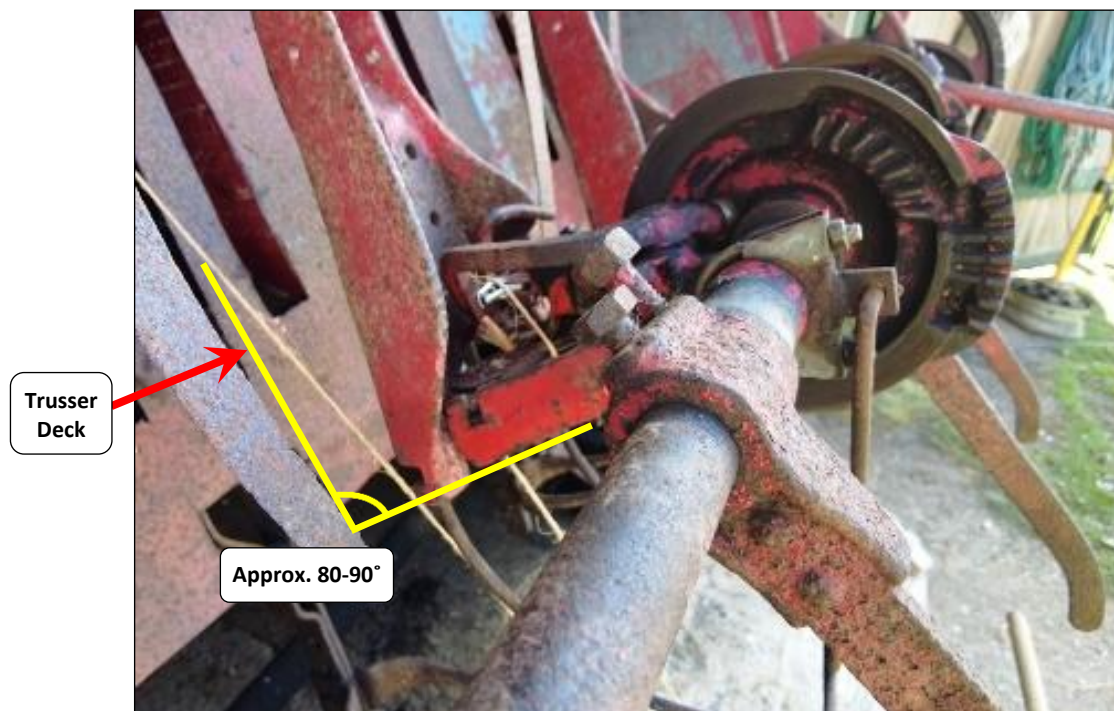

Fig.5.11 (Modified) Howard trusser fitted with New Holland baler knotters (*shown in 'at-rest' position*)
- a) Attached to (*cast*) mounting bosses which are clamped to the Knotter Shaft by studs, which screw into recesses / holes machined in the shaft (*see Fig.5.11*). The (*clamped*) mounting bosses also prevent other components from moving along the shaft
- Ideally the Replacement Knotters should be mounted at approx. 90 degrees to the Trusser’s Deck (*Fig.5.11*), **BUT ultimately:**
- Rotate & hold the Knotter Frame in the correct angular position relative to the Trusser's Deck (*see Figs 5.11 & 5.15(b)*)
- The correct angular position of the Knotter Assembly *(to suit the Needle's arc of travel)* has already been discussed *(see Fig.5.11)*. So now you need to get a little inventive & develop a suitable 'fixing' to attach the Replacement Knotter *(frame)* to the Trusser's Breast Plate at the correct angle